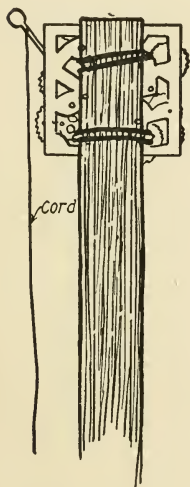

FIG. 305.
**A Clock-work Tick-tack**, such as is illustrated in Fig. 305, is another good idea, and one that can be carried out with a few minutes' work. Remove the works from an old alarm clock, and fasten them with wire or cord to the end of a pole, as shown. Attach a cord to the striker, and make it long enough to reach to the other end of the pole. Make a loop in the end of the cord, and drive a nail into the pole over which to loop the cord to keep the striker in check. This tick-tack is worked by placing the end of the pole